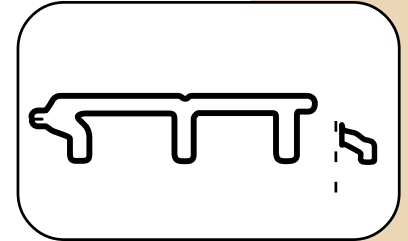

Fig. 8
- Cut the “heel” off the “groove” of the replacement TimberTech plank (Fig. 8).